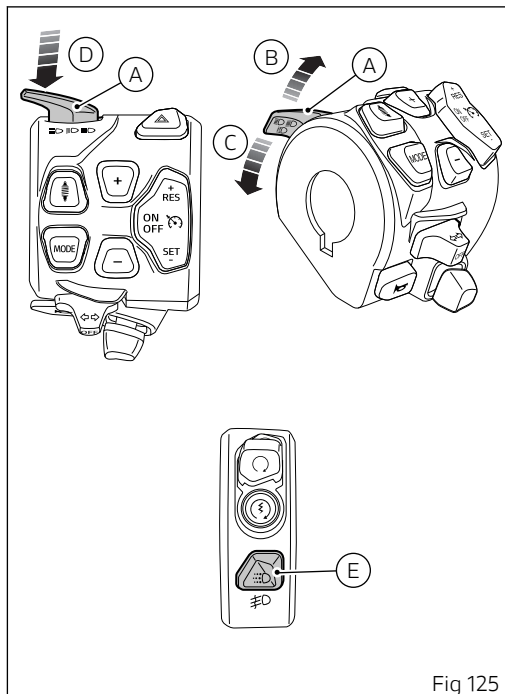

Fig 125
When the DRL is set to "Auto" mode, the corresponding warning light will turn on. If the DRL was set to "Auto" mode, press button (E, Fig 125) to disable that mode and set manual light management. Press again button (E, Fig 125) to re-enable DRL but with control strategy set to "Manual". In this case, upon next Key-On, DRL will be again set to "Auto" mode.
If the DRL lights are in this mode, as set through the "DRL" function within the "Setting menu" (page 282) DRL lights will not change their status upon key-on. To switch on or off the DRL lights, it is necessary to press button (E, Fig 125).
- if DRL lights are present, press and hold button (E, Fig 125) for a long time;
- if DRL lights are not present, press button (E, Fig 125).